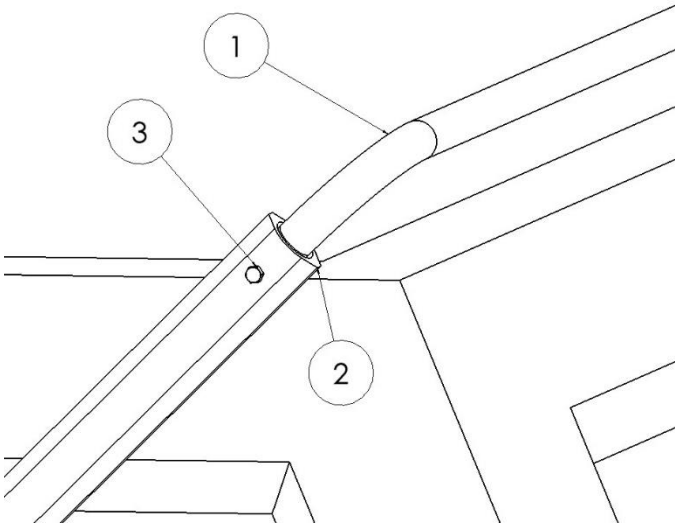

Figure 4.1
Insert the single piece cross tube (1) into the free ends of the lower arms (2). While the cross tube is inserted in the arms drill a $11/32$ " hole through the arm and cross tube on both sides of the truck. Secure the cross tube to the arms using a $5/16$ " x 2- $1/4$ " hex bolt (3) and $5/16$ " hex nut. (Figure 4.1)